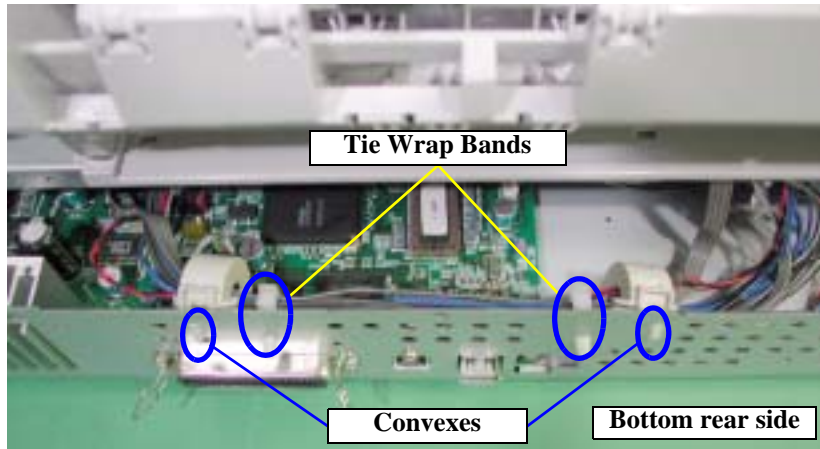

Figure 4-15. Disconnecting the Connector Cables and FFCs
Refer to Figure 4-15, "Disconnecting the Connector Cables and FFCs".
- When reinstalling the Board Unit, always bundle the Connector Cables and FFCs (narrow FFCs) with the Tie Wrap Bands and Ferrite Cores. Refer to Figure 4-15, "Disconnecting the Connector Cables and FFCs".